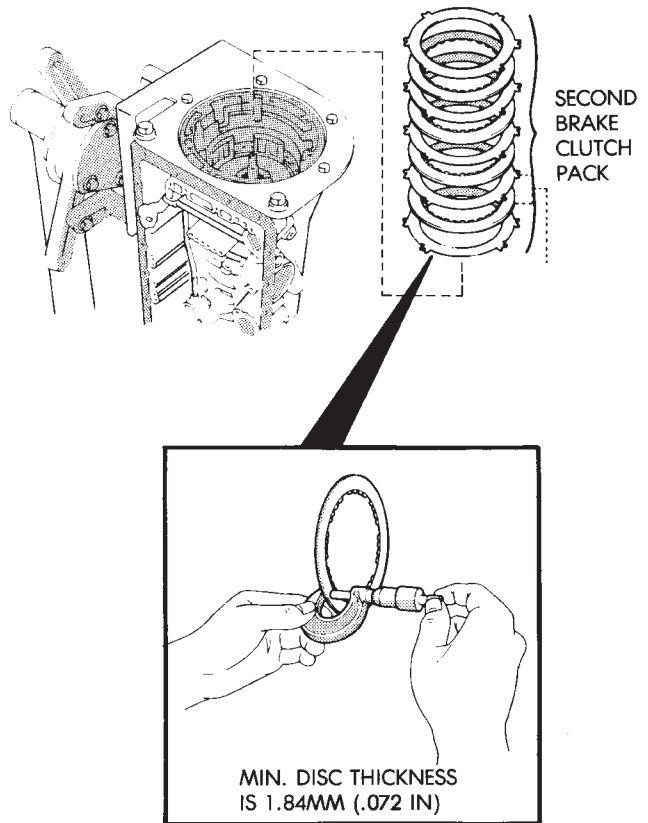

Fig. 40 Removing/Measuring Second Brake Clutch Disc Thickness
(49) Remove second brake clutch pack (Fig. 40). Measure disc thickness with micrometer. Minimum thickness should be 1.84 mm (0.0724 in.). Replace discs if not within specifications.